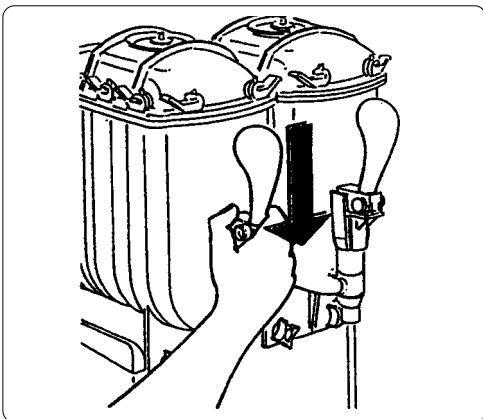

Fig. 25
- o) Reposition the tap in its seating until it is fully inserted and remove the discharge hose from the dispensing hole (fig. 25).